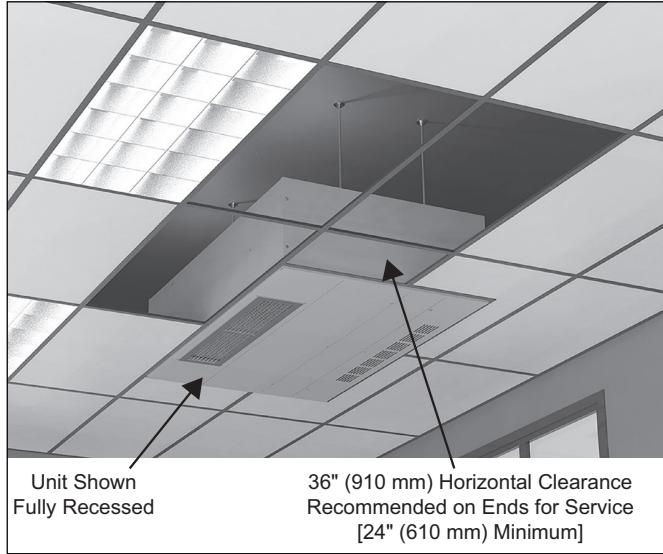

Fig. 2 — Recommended Service Clearance for Ceiling Mounted Units
5. Check to make sure that the units will have adequate installation clearance around them for servicing. For ceiling units, see Fig. 2.